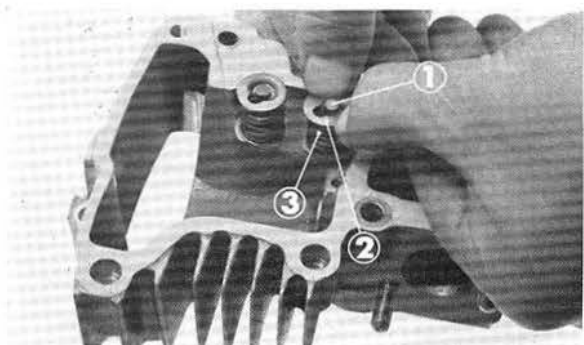

Fig. 2-9 ① Valve ② Valve spring retainer
③ Valve spring
1. The valve can be removed by pressing down on the valve retainer and matching the recess in the retainer to the end of the valve. (Fig. 2-9)